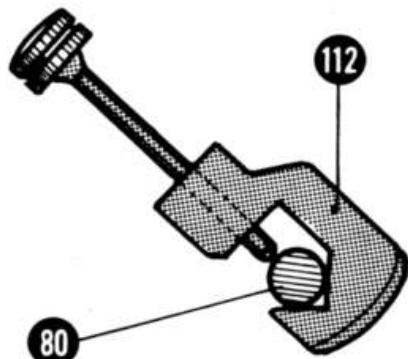

Fig. 36
adjust needle to the lowest position, fit the clamp N 32 NU 7 (112) Fig. 36 to the needle bar (80), place the N 32 NU 6 1,8 gauge to the lower edge of the reversing support (81) and hold in position with the